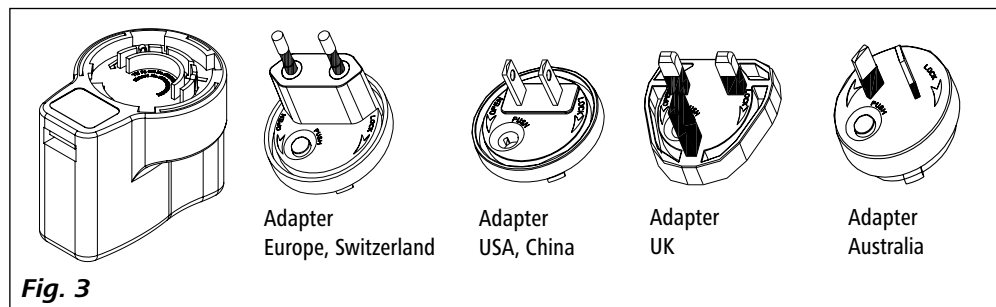

Fig. 3
- OS 1.0 power supply (for **WiCo**) see Fig. 3